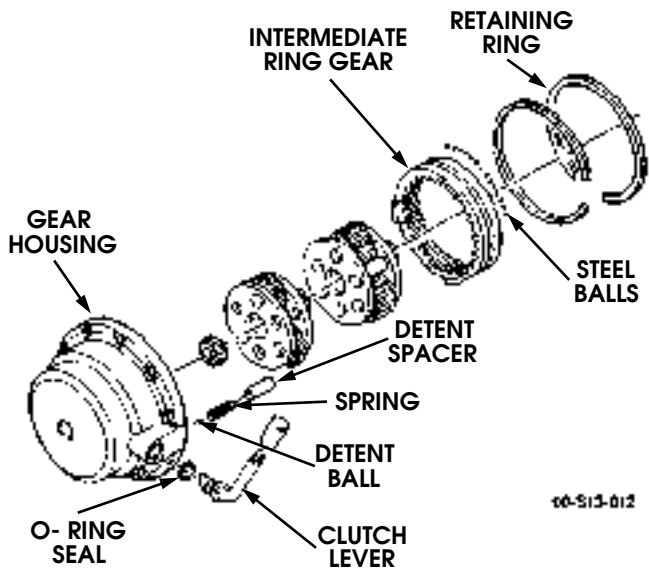

Figure 9-198: Intermediate Ring Gear and Gear Housing
1. Position 85 to 87 steel balls in groove of intermediate ring gear and install intermediate ring gear in gear housing (Figure 9-198).